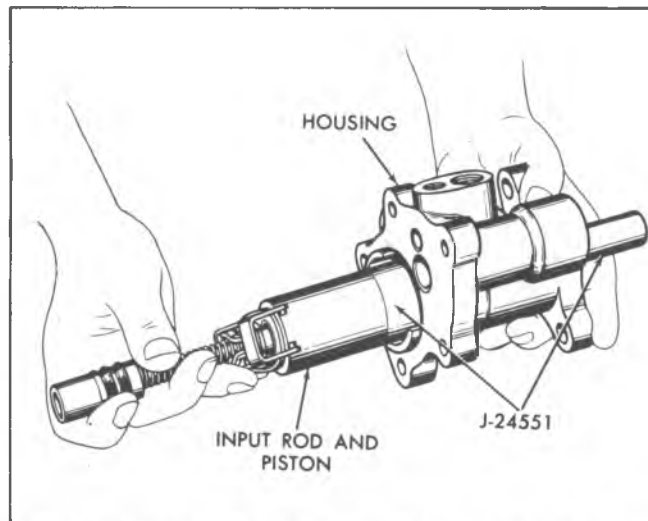

Fig. 7--Installing Input Rod and Piston Assembly into Booster (Typical)
6. Lubricate the piston and Piston Installing Tool J-24551 with clean power steering fluid. Insert the large end of the tool into the piston (fig. 7), and slide the tool and piston into the piston bore and through the piston seal.